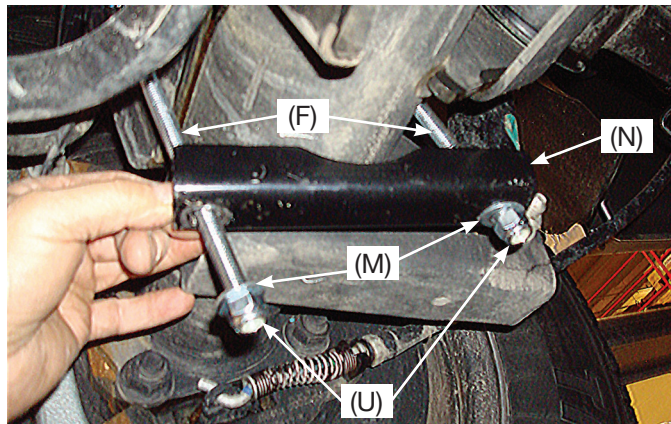

Fig. 18
5. Set the clamp bar (N) over the two long carriage bolts (F) under the axle and cap with two 3/8" flat washers (M) and 3/8" nylon lock nuts (Q) (Fig. 18).